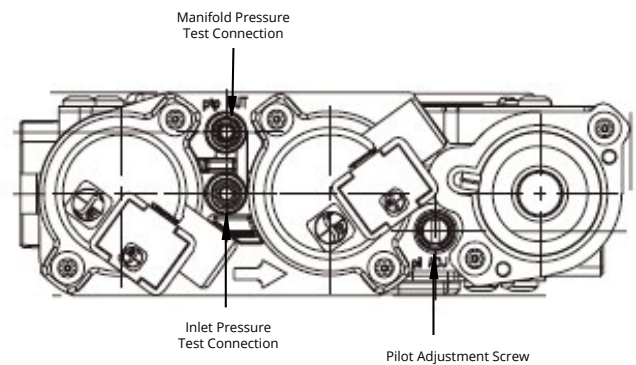

Figure 28. Pilot Adjustment on the SIT Proflame 2 gas valve.
1. Locate Pilot Adjustment Screw. (See **figure 28**)